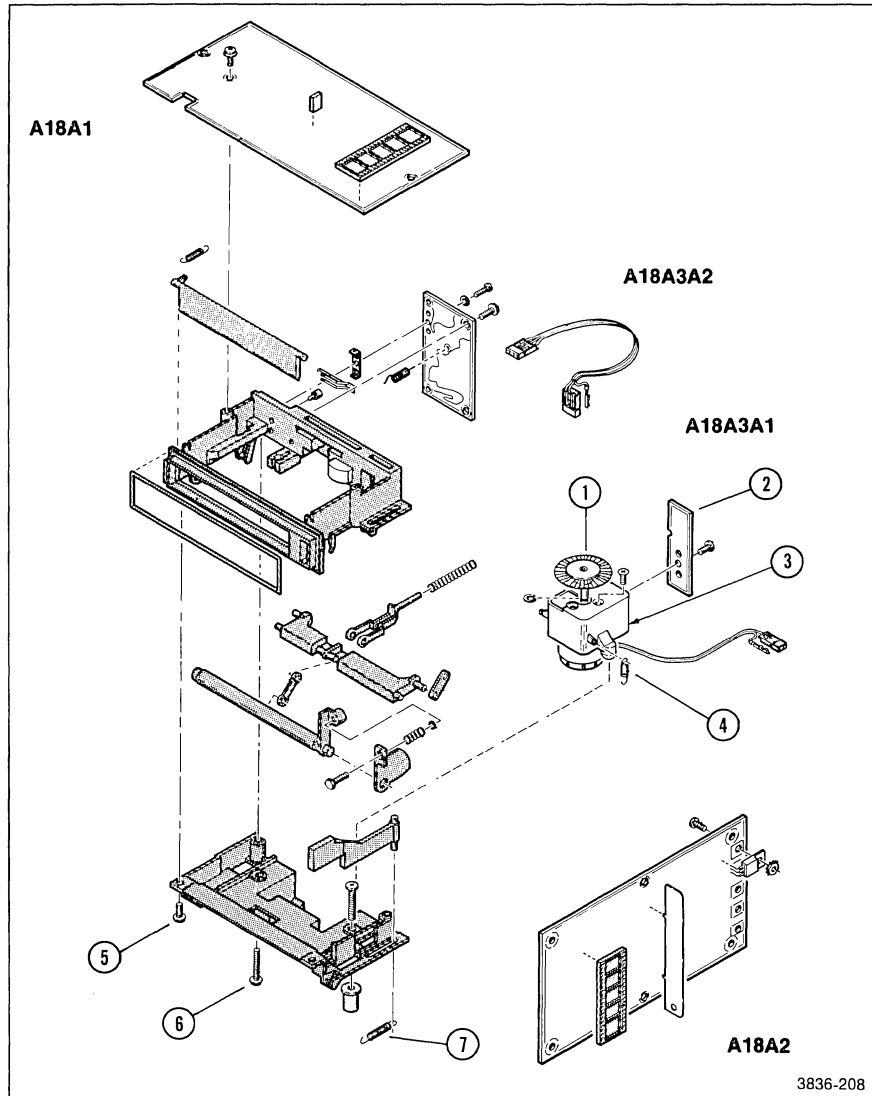

Figure 6-21. Exploded view of tape drive mechanical parts.
Figure 6-21 is an exploded-view of the tape drive, and is the reference for disassembly and reassembly of the tape drive.
3. Use long-nose pliers to remove the motor support springs (4) located on each side of the motor (3). See Figure 6-21.
4. Remove the eject spring (7) on the side of the transport assembly.
5. Remove the four screws (two 4-40 x 0.312 and two 4-40 x 0.625 with washers) (5) (6) in the corners of the bottom of the transport assembly that hold the two halves together.
6. As you separate the two halves of the tape transport assembly, the motor can be removed. Be very careful not to damage the tach wheel (1).